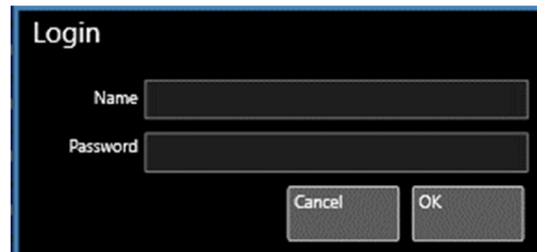

Figure 6-2 HMI Login
- To login, just click on [Login] from any HMI screen, an overlapping screen will be displayed, as shown in Figure 6-2.